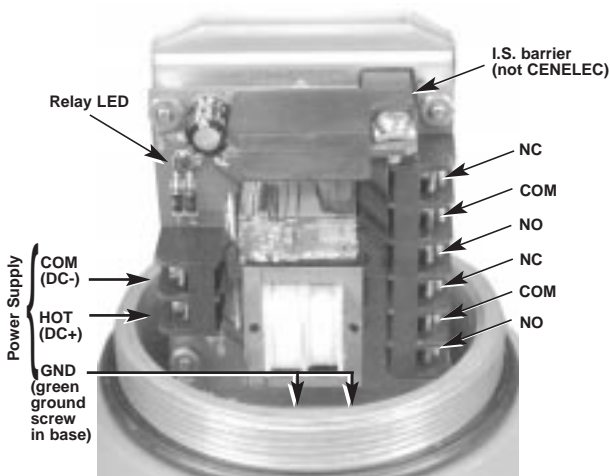

Figure 14
5. After grounding is complete, connect power leads to applicable AC or DC terminals as marked. Refer to **Figure 14**.
6. a. Connect control circuit leads to relay terminals. Refer to **Figure 14**. Make sure the load to be controlled is within the relay's rated capacity.
15. After grounding is complete, connect power leads to applicable AC or DC terminals as marked. Refer to **Figure 14**.
16. a. Connect control circuit leads to relay terminals. Refer to **Figure 14**. Make sure the load to be controlled is within the relay's rated capacity.